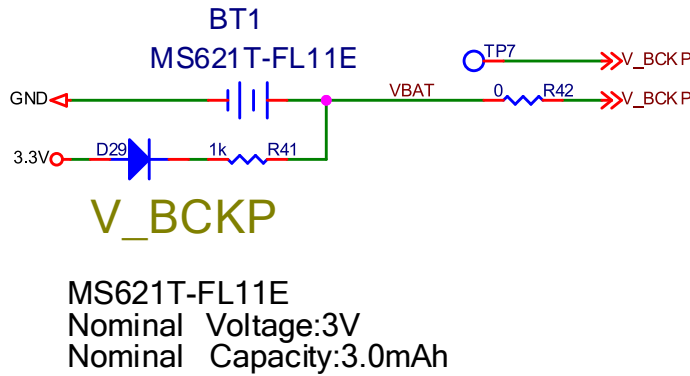

Figure 3-5 Backup Power Circuit
- When the backup battery supplies power to V\_BCKP, the battery charging circuit should be designed to prevent reverse current to ensure that the battery only supplies power to V\_BCKP and the current does not flow back into the 3.3 V power domain, as the D29 shows in Figure 3-5.
- According to the maximum charging current of the battery, a current-limiting resistor should be added, as the R41 shows in Figure 3-5.